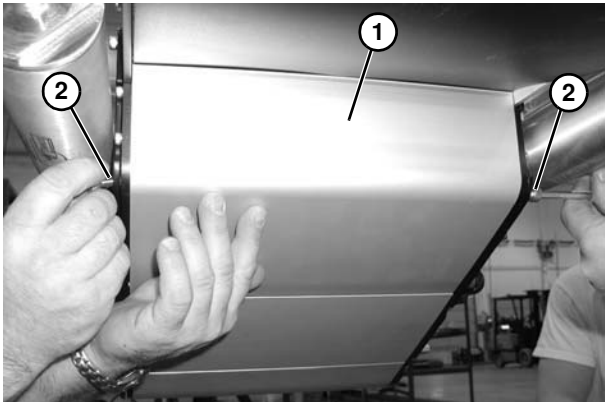

Figure 151
3. Temporarily support idler guard assembly (**Figure 151, item 1**). Remove screws (**Figure 151, item 2**).